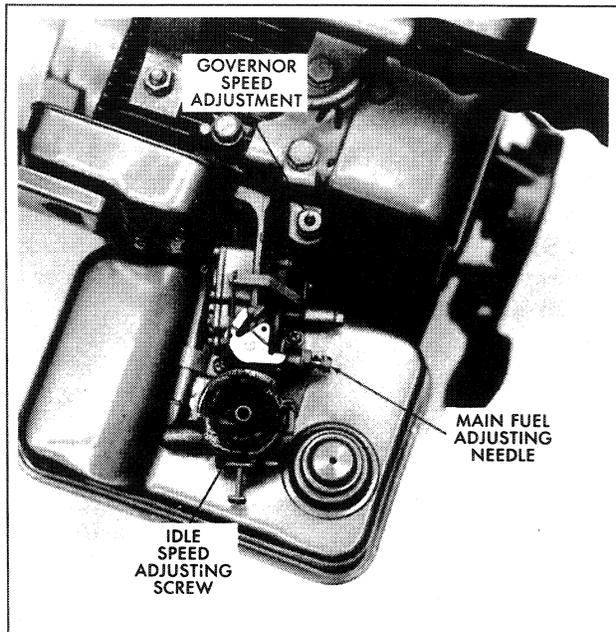

Figure 2-23. Carburetor and Governor Adjustments—2.25 kW, Briggs and Stratton Powered
BRIGGS & STRATTON POWERED — See Figures 2-23 and 2-24
1. Turn main fuel screw in until lightly seated; turn out 1-1/2 turns (2.25 kW models), or 1-1/8 turns (3.5 and 5 kW models). See Figures 2-23 and 2-24.